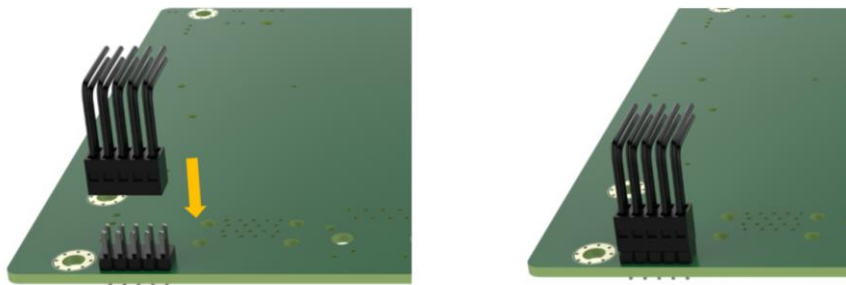

Figure 3-11: RS-232 Cable Installation
Step 2: Connect the serial cable to the serial connector on the mainboard. (**Figure 3-11**)